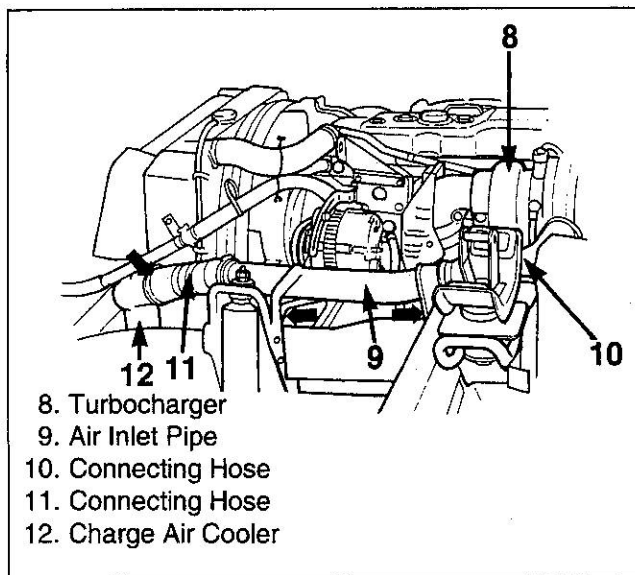

Figure 4. Air Intel Pipe Attachment
7. Air inlet pipe (9) with connecting hoses (10) and (11) from the turbocharger (8) and charge air cooler (12) (figure 4).
28. Air inlet pipe (9) with connecting hoses (10) and (11) to the charge air cooler (12) and turbocharger (8) (figure 4).